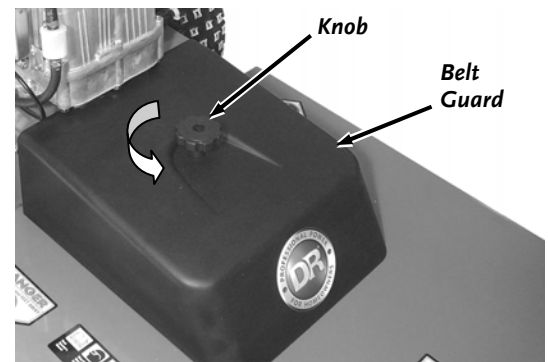

Figure 9
1. Remove the Belt Guard by unscrewing the black Knob and pulling the Guard up off the Stud (**Figure 9**).